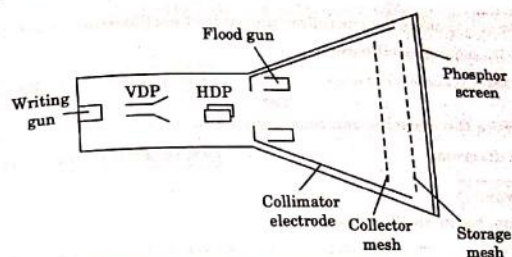

Fig. 4.20.1. Basic elements of storage mesh CRT.
2. A mesh storage CRT is shown in Fig. 4.20.1.